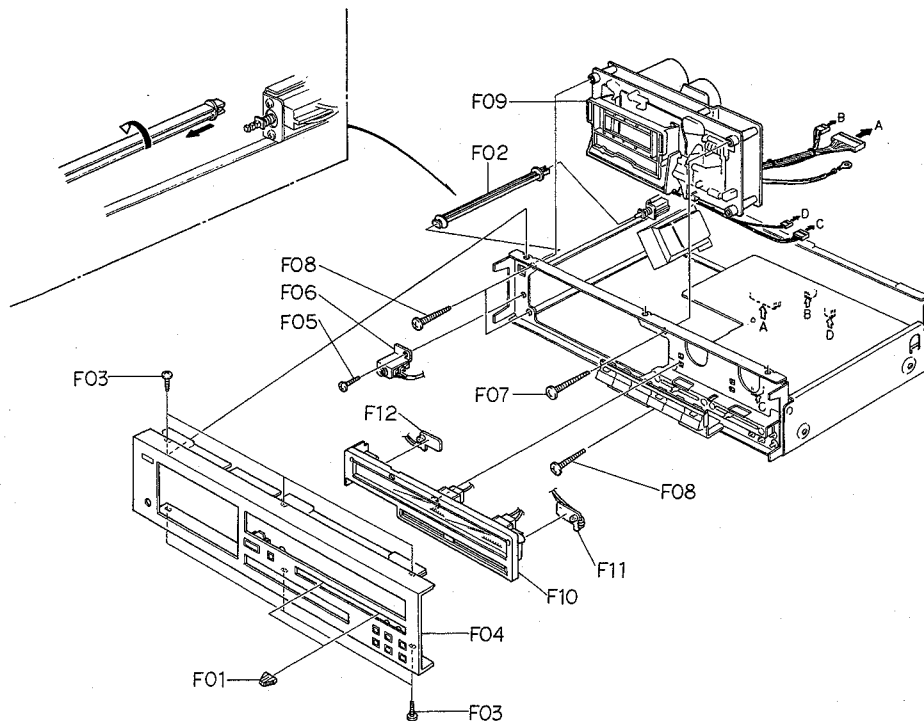

Fig. 3.2
Refer to Fig. 3.2.
- (1) Refer to Fig. 3.2. Remove Front Panel Ass'y referring to item 3.4.
- (2) Remove 4 connectors and the wires connected by wrapping from the F05 (Main P.C.B. Ass'y).
- (3) Remove F01, F02, F03, F04 and the Record Switch Linkage from the Wire Holder assembled with Record Switch, then disassemble F05 (Main P.C.B. Ass'y).
- (1) Refer to Fig. 3.2. Remove Meter Ass'y referring to item 3.7.
- (2) Remove F06, then disassemble F07 (Control Switch Holder Ass'y).
- (2) Remove F08, then disassemble F09 (Switch P.C.B. Ass'y).
- (1) Refer to Fig. 3.2. Remove Mechanism Ass'y referring to item 3.6.
- (2) Press the Eject Button to open the Cassette Case Ass'y.
- (3) Remove F01, then disassemble the piston of the Pneumatic Damper Ass'y.
- (4) Remove F02 and F03 (Cassette Case Holder L Ass'y), then disassemble F04 (Cassette Case Ass'y).
- (5) Remove F05, then disassemble F06 (Cover Plate Ass'y).
- (2) Remove F07, then disassemble F08 (Tape Counter Ass'y).
- (2) Remove F01 and F02, then disassemble F03 (Flywheel Holder Ass'y) and F08 (Capstan Belt).
- (3) Remove F04, then disassemble F05 (Capstan Motor Ass'y).
- (4) Remove F06, then disassemble F07 (Control P.C.B. Ass'y).
- (5) Remove F09 (Supply Flywheel Ass'y), then disassemble F10 (Take-up Flywheel Ass'y).
- (6) After removing both Flywheel Assemblies, disassemble F11 (Thrust Washer 3 mm), F12 (Thrust Washer 2.6 mm), F13 (Flange Thrust Caps) and F14 (Thrust Springs).